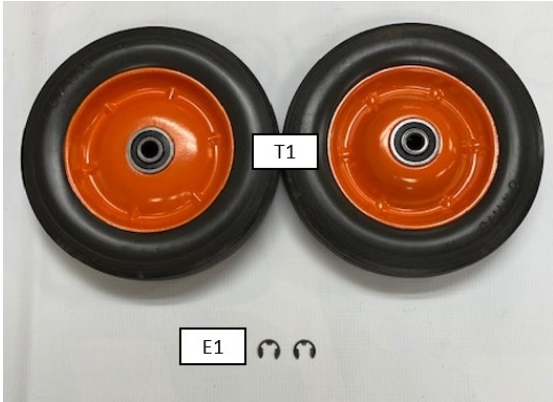

Figure 10
- A. Assemble the wheel (T1) onto the axle shaft on the Cart Axle Bracket (C3) shown in figure 10. **Make sure the round hub is facing outward.** Once the wheel (T1) is on the shaft, push the E-Clip(E1) with a flat end of an Allen wrench.